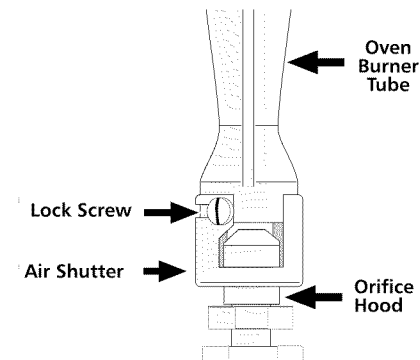

FIGURE 14
- If adjustment to the air shutter is necessary, locate the broiler burner air shutter (See figure 14), loosen shutter lock screw, and adjust to obtain optimum flame. This will normally be completely open for LP/Propane gas. If the flame is yellow in color, increase the air shutter opening size. If the flame is a distinct blue, but lifting away from the burner, reduce the air shutter opening size. Tighten the shutter set screw.